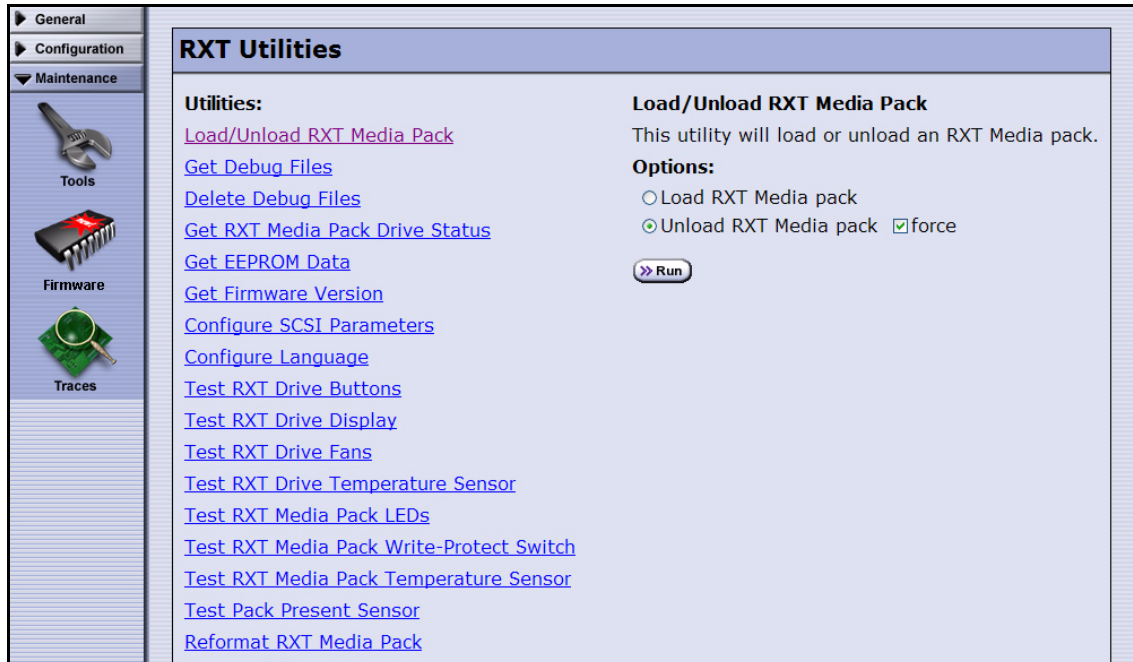

Figure 2-1 The RXT Utilities screen, showing the Load/Unload RXT Media Pack utility.
2. Select **Maintenance** → **Tools**. The RXT Utilities screen appears (Figure 2-1).
3. Select **Load/Unload Media Pack**. The screen refreshes to show the details of the utility (Figure 2-1).